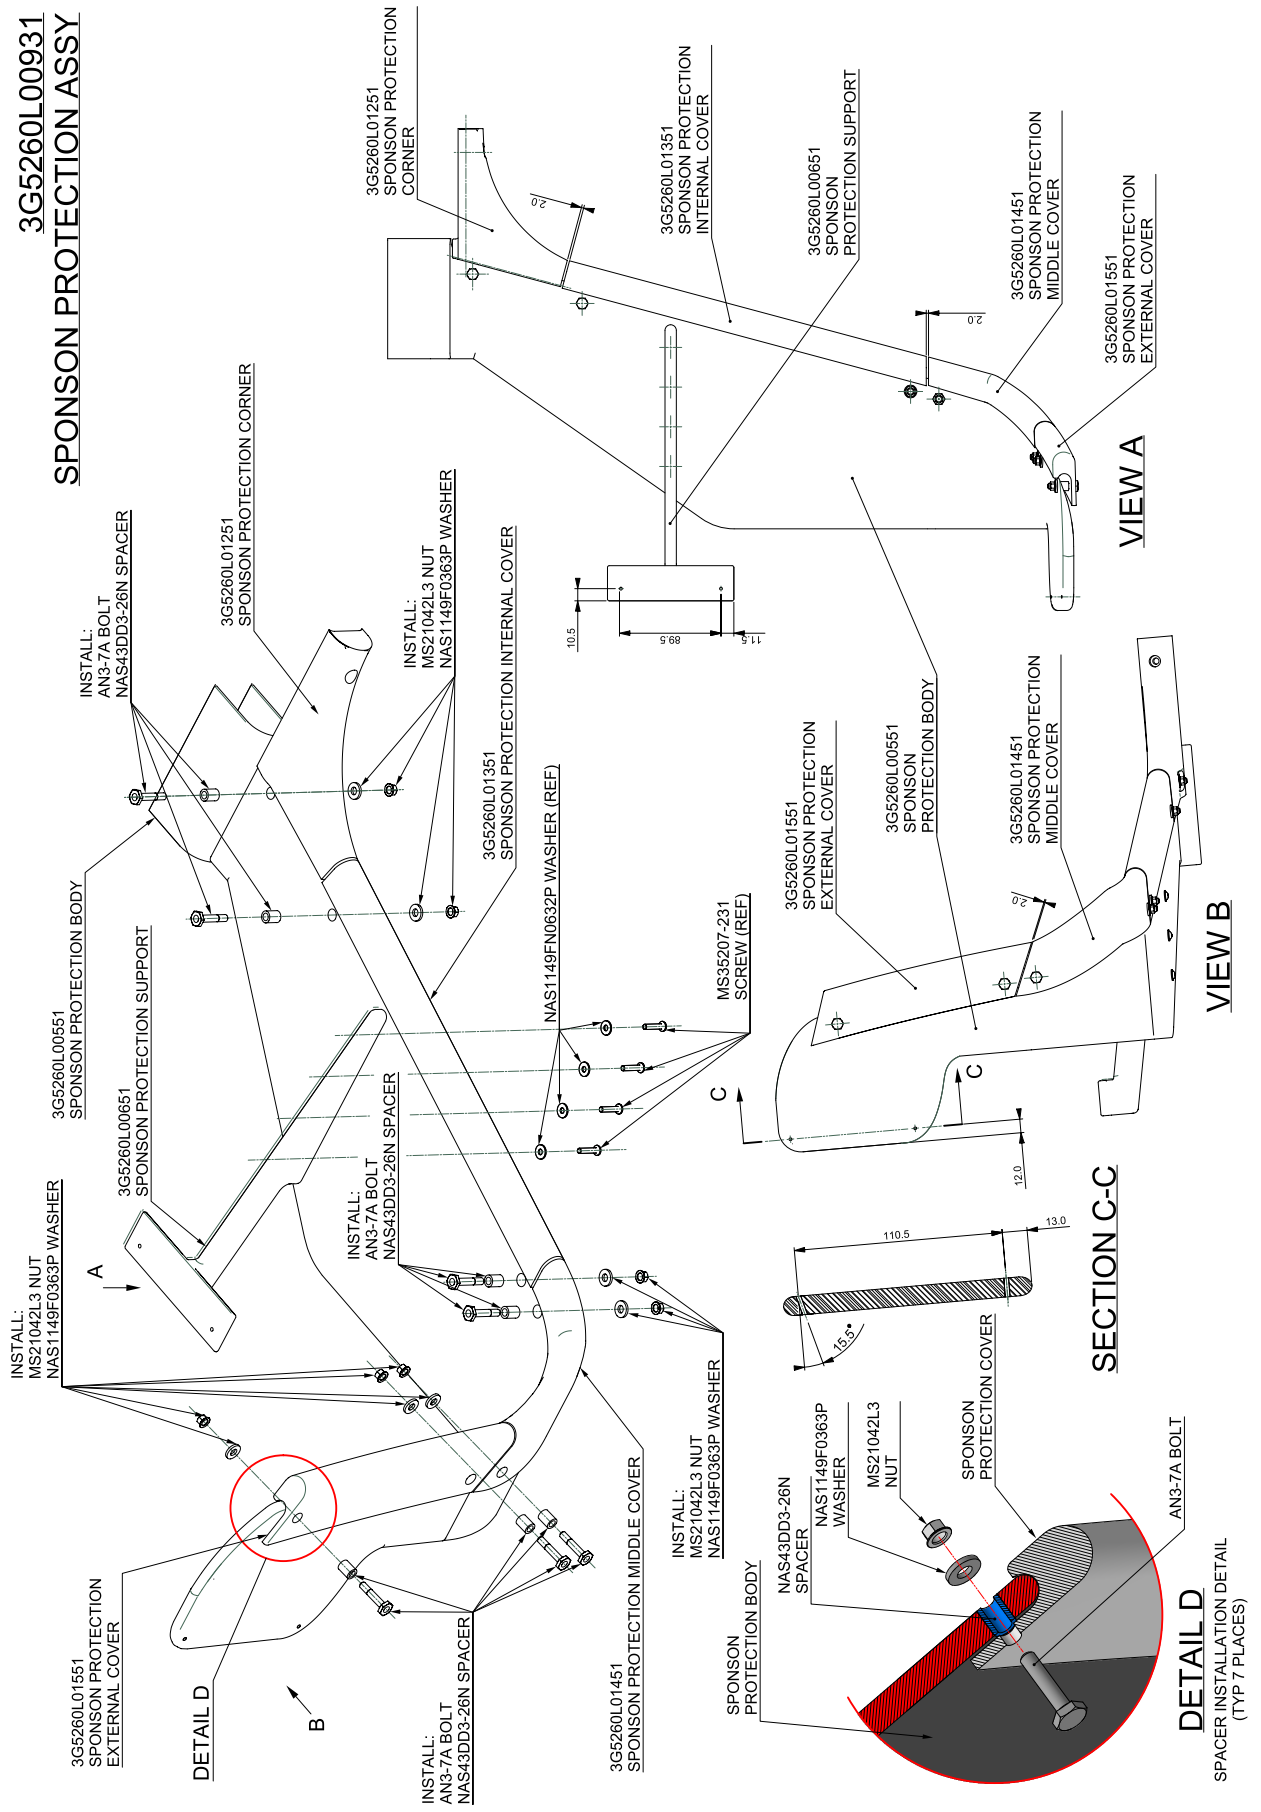

Figure 5
5.2.3 With reference to Figure 4 Detail C and Figure 5, Section C-C, drill the sponson protection body P/N 3G5260L00551 according to the n°2 screws positions removed in step 4 from the RH side of the RH sponson.
- 5.5 With reference to Figure 5 perform the installation of the sponson protection corner P/N 3G5260L01252, of the sponson protection internal cover P/N 3G5260L01351, of the sponson protection middle cover P/N 3G5260L01451 and of the sponson protection external cover P/N 3G5260L01551 on the sponson protection body P/N 3G5260L00551 as described in the following procedure:
- 5.5.2 With reference to Figure 5, fix all the covers on the sponson protection body P/N 3G5260L00551 by means of: